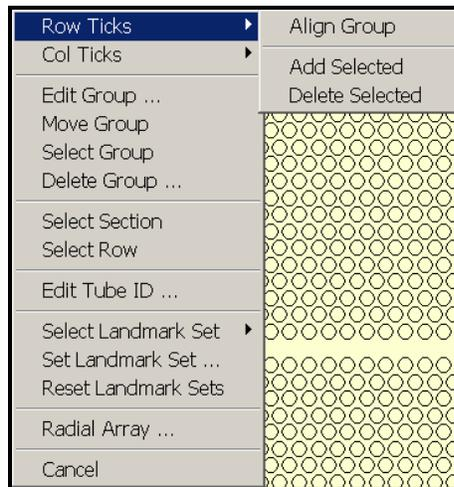

Figure 47. Popup Menu – Row Ticks Fly-out Menu
- **Popup | Row Ticks:** Clicking the **Row Ticks** selection on the **Popup** menu displays the fly-out menu shown in Figure 47. Each selection is discussed below:
- **Popup | Col Ticks:** Clicking the **Col Ticks** selection on the **Popup** menu displays a fly-out menu with the same choices shown in Figure 47. These three (3) features function in the same way as the **Row Ticks** selection previously discussed, except for column ticks instead. Please refer to the **Popup | Row Ticks** topic above for use of these features.